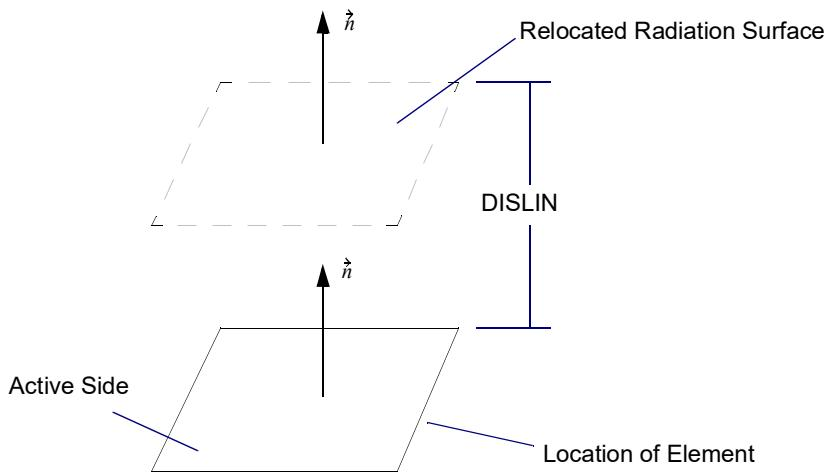

Figure 9-168 DISLIN Convention
DISLIN	The displacement of a surface perpendicular to the surface. See Figure 9-168 . (Real; Default = 0.0)
6. DISLIN should only be used with LINE type CHBDYE and CHBDYP surface elements. DISLIN > 0.0 means into the cavity. See Figure 9-168.